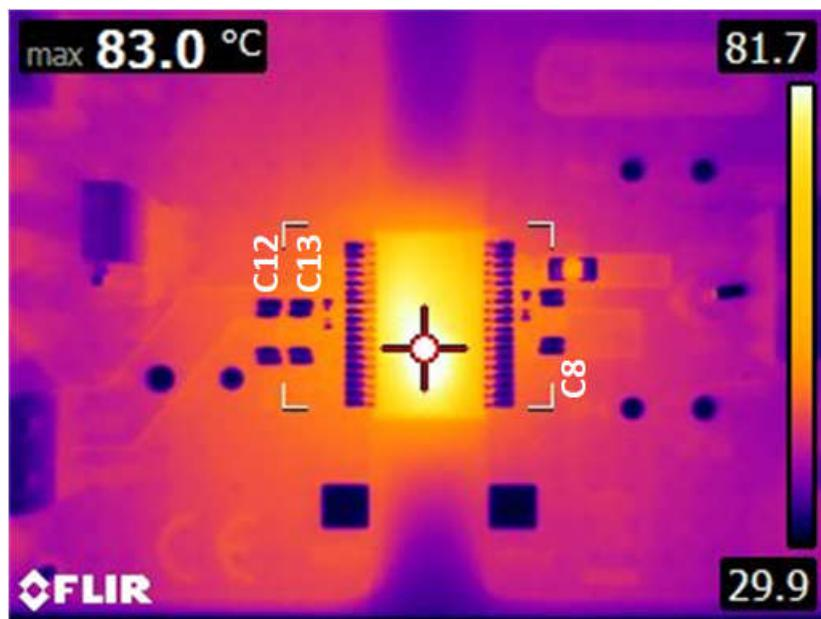

Figure 12-25. Thermal Image
f. As seen in Figure 12-25, there is a point of diminishing return, regarding the number of vias and size of the thermal via array. For 1.5-W of output power, heat transfer is shown to quickly diminish just beyond C12 and C8. The distance from the inner pad line of U1 to C12 is 320 mils.